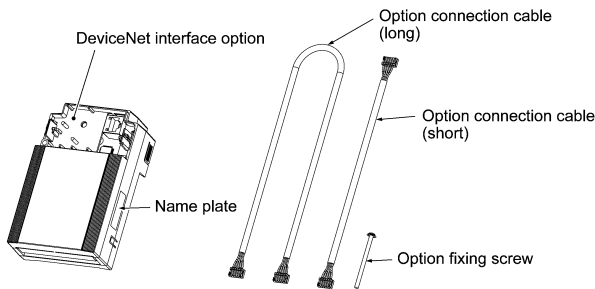

Figure 1.1 DeviceNet Interface Option and Accessories
- (1) A DeviceNet interface option and accessories below are contained in the package. (See Figure 1.1.)
- (2) The option and accessories have not been damaged during transportation—there should be no dents or parts missing.
- (3) The model name "OPC-E1-DEV" is printed on the nameplate attached to the right side of the option. (See Figure 1.1.)